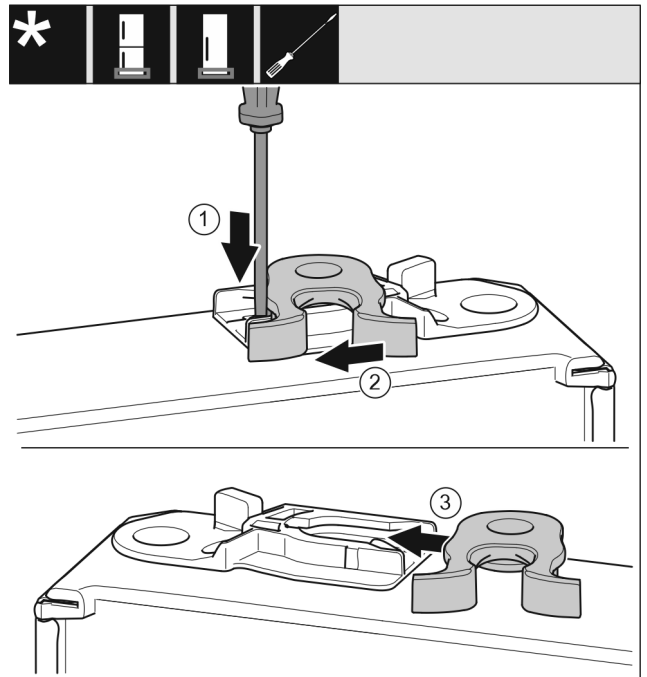

Fig. 40 \*
- Use a slotted screwdriver to push the tab Fig. 40 (1) downwards.\*
- Pull the closing hook Fig. 40 (2) out of the guide.\*
- Insert the closing hook Fig. 40 (3) into the guide on the other side.\*